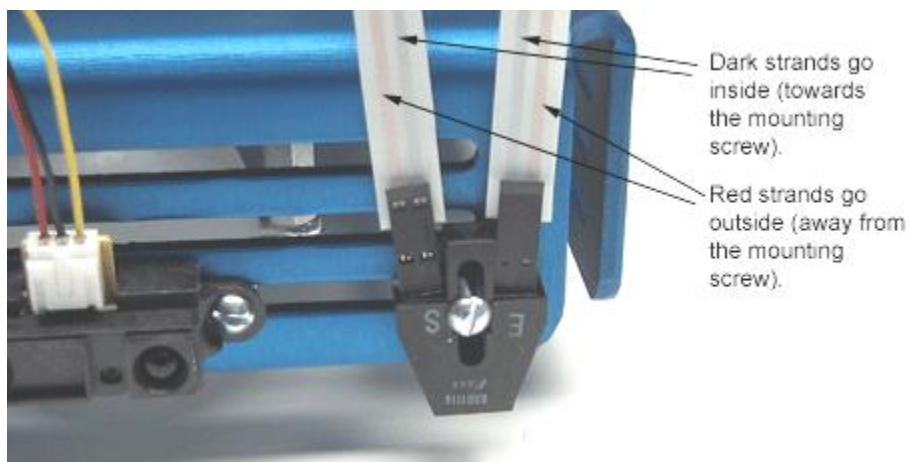

Figure 19. Two-color wires connected to down-facing sensors.
**3. Connect the flat-flex cables to each sensor, as shown in Figure 19.**